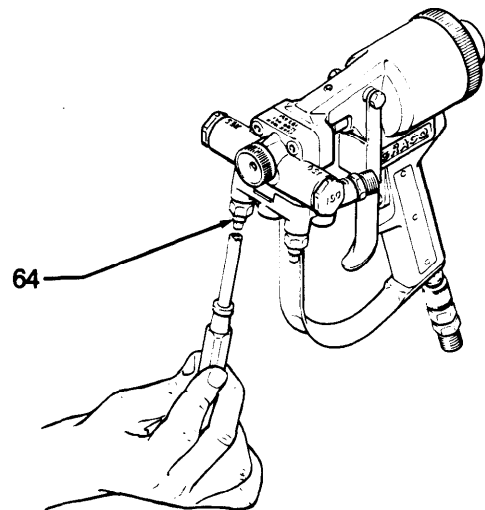
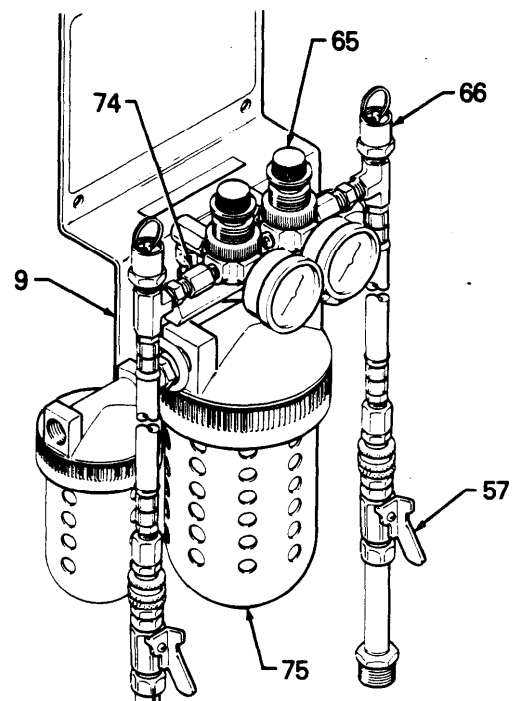

Fig 15
Fig 16
- a. Close the feed pump air inlet valves or regulators (8). See the Typical Installation on page 3.
- b. Close the heater drain valve (61). See the Typical Installation.
- c. Close the air valve (214) to the proportioning pump air motor. Refer to the Typical Installation on page 3.
- d. Close the needle valves (64) of the spray gun manifold. **Do not overtighten as this will crack the seals!** See Fig 15.
- f. Open the proportioning pump fluid intake valves (230). Refer to the Typical Installation.
- g. Open the main air line shutoff valve (1). Refer to the Typical Installation.
- h. Adjust the Air Dryer (9). See Fig 16.
- (1) Set both air regulators (65) to the lowest pressure needed to provide adequate dry air to the supply drums. A setting of 2 psi (0.14 bar) normally provides enough dry air to the drums.
- (2) Open the drum shutoff valves (57). Refer to the Typical Installation.
- (3) To lower the pressure on the gauge, turn the regulator knob counterclockwise and pull up on the pressure relief valve ring (66) until the pressure on the gauge is just below the desired setpoint. Release the ring then turn the knob to the desired pressure. See Fig 16.
(2) Open the manifold needle valves (64). See Fig 15, page 9. Allow the material to flow out until all air is purged from the sprayer and the spitting stops.
(3) Close the needle valves. Do not connect the manifold and gun.
- a. Be sure the gun manifold needle valves (64) are tightly closed. Refer to Fig 15.